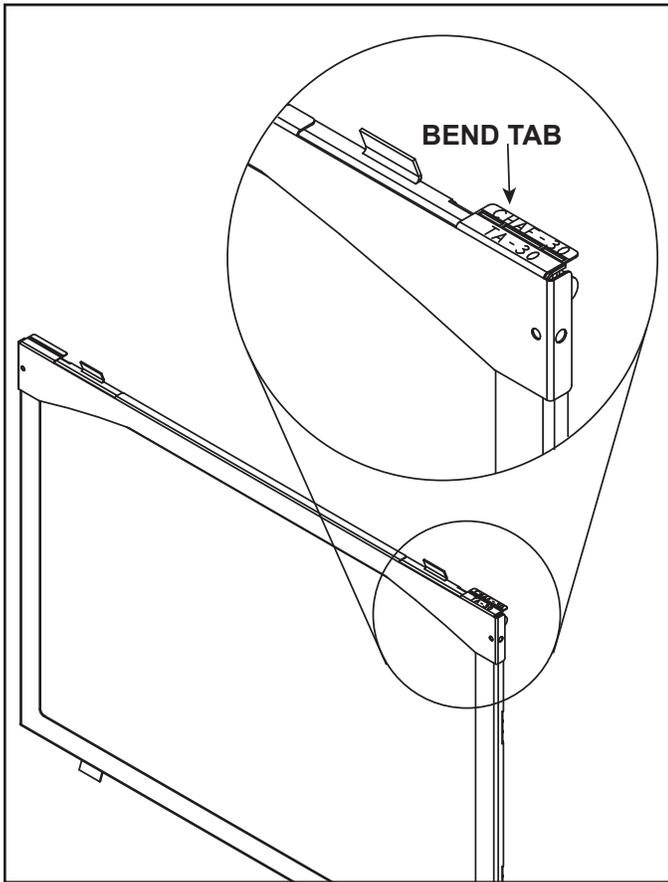
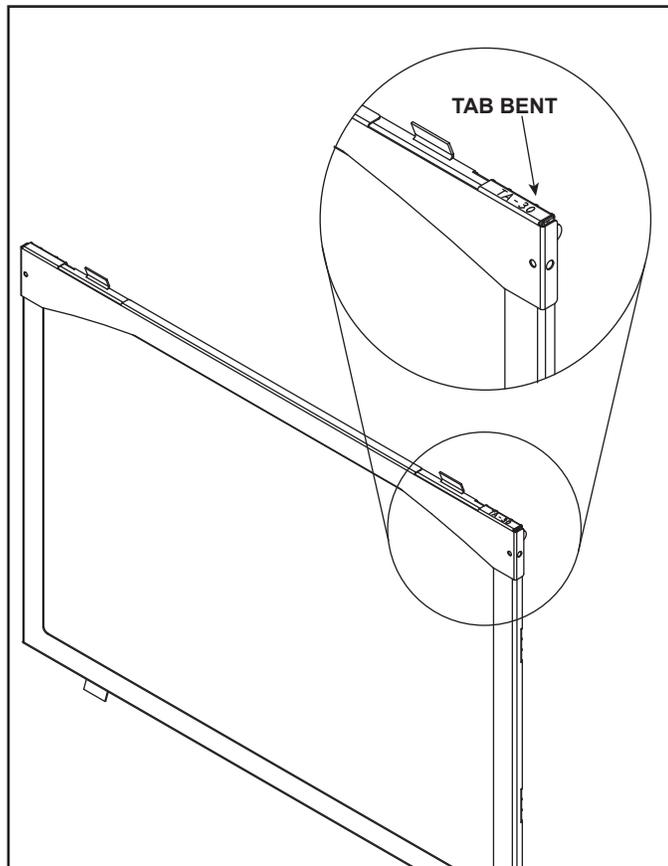

Figure 6. Location of Hand Bend Tabs - Tuscan Arch
Figure 7. Tabs Bent to Secure Vanity Panel - Tuscan Arch
4. Locate the hand bend tabs on left and right sides indicated in Figure 6. Bend the tabs downward as shown in Figure 7.